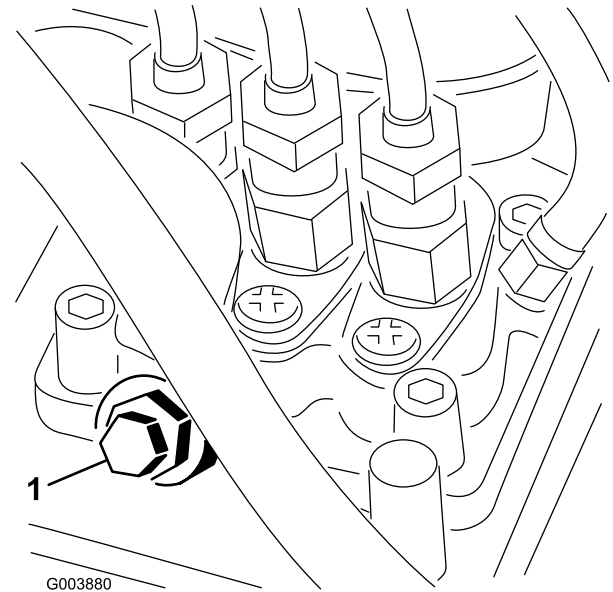

Figure 22
3. Open the air bleed screw on the fuel-injection pump (Figure 22).